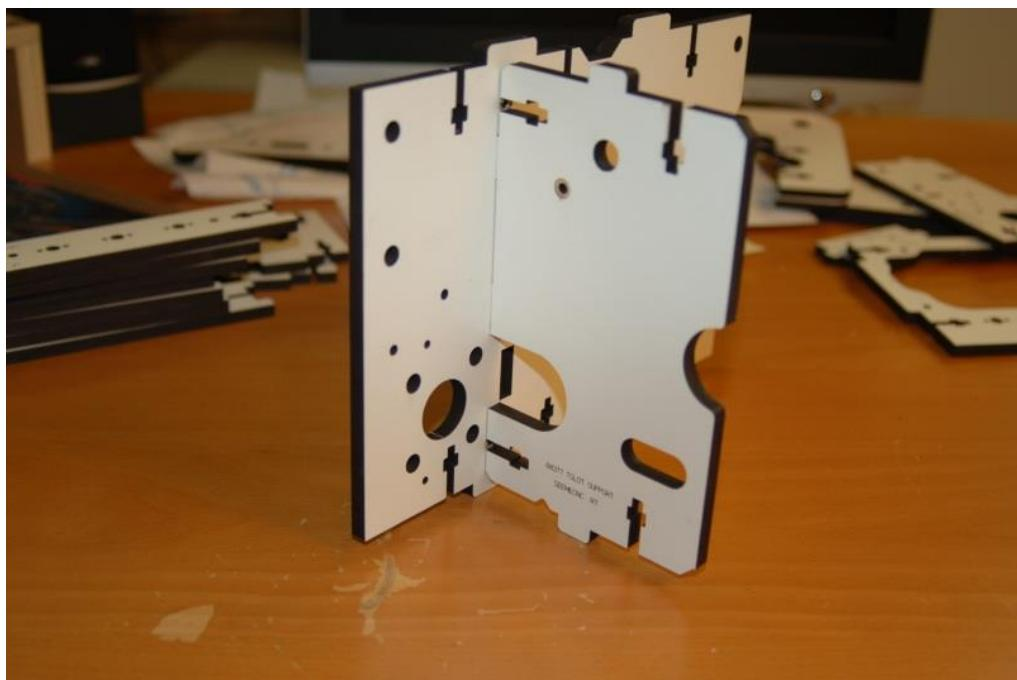
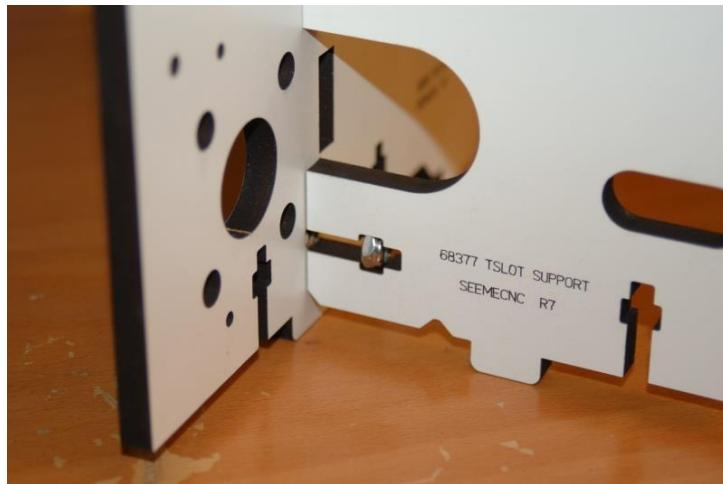

Figure 7 - Dry fitting the T-Slot and Tri-Support together.
Figure 8 - Lock nut installed in the T-Slot Support.
**Note that that Fig. 7 above and Fig. 8 below show the T-Slot panel mated to the wrong side of the Tri-Support. Figures 9 and on are correct!**
1.8 - Dry fit the parts as shown in Fig 7 in order to get an idea how they go together. You'll do this for many steps in the assembly guide. Next, pop out the counter-sink rings on the Tri-Support and install a pair of #6-32 Nylon lock nuts into the notches in the T-Slot Support as shown below.